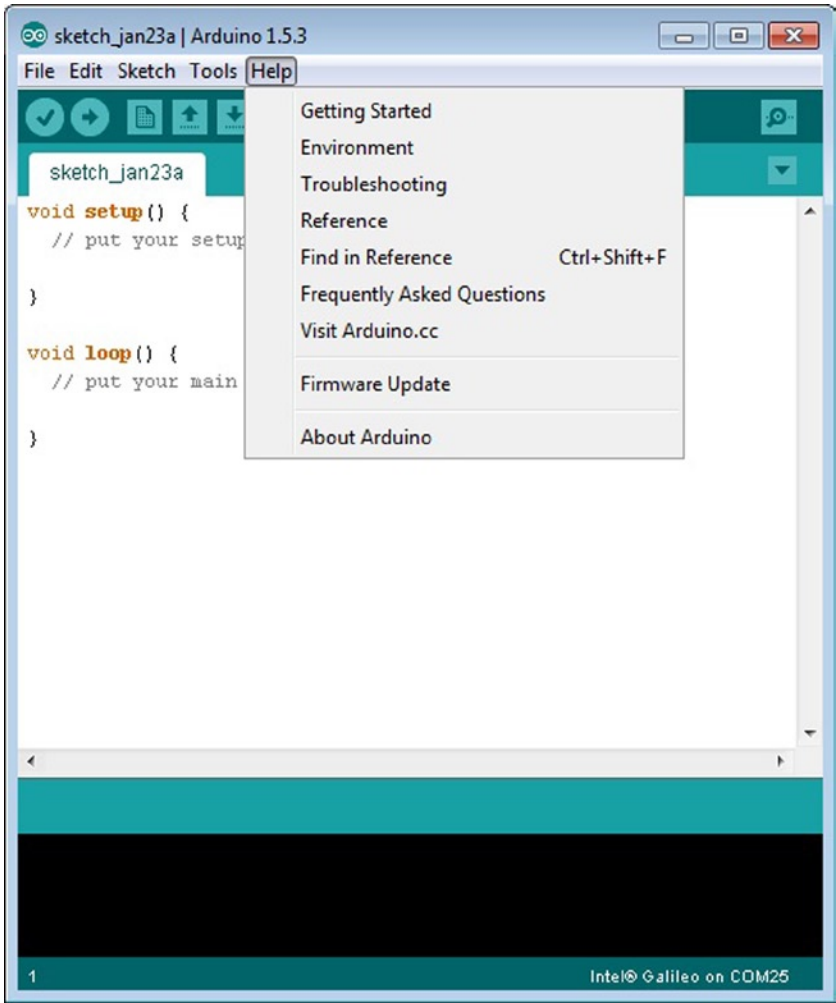

Figure 3-15. *Firmware Update option in the Help menu*
6. Select Help ► Firmware Update, as shown in Figure 3-15.